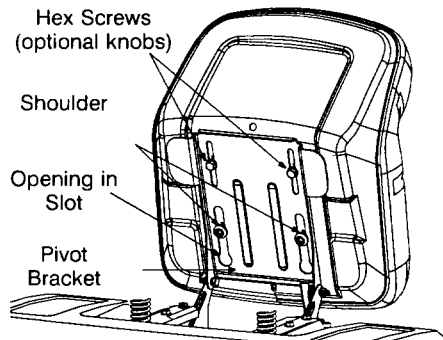

FIGURE 3
- Select desired position for the seat, and secure with the two hex screws/knobs removed earlier. See Figure 3.